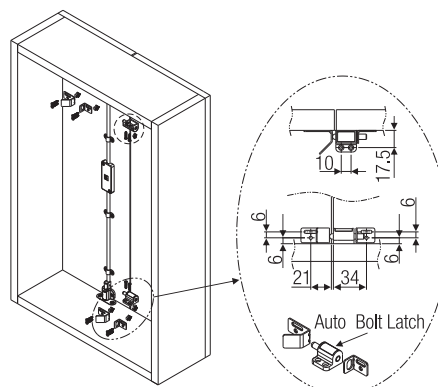

Fig. 3
3. Fix the set of Auto Bolt Latch to the bottom and top of the cabinet and shutters as shown in Fig. 3.